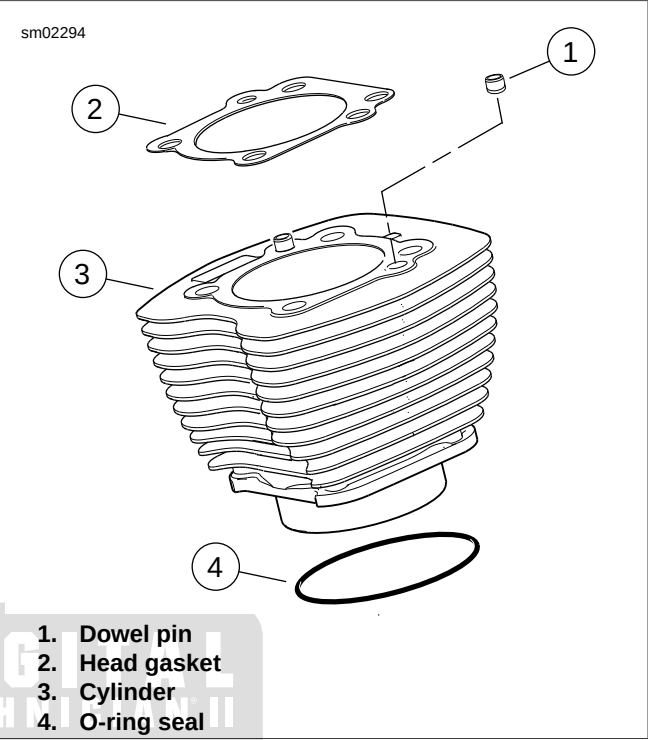

Figure 3-22. Cylinder Assembly
5. See Figure 3-22. Remove o-ring seal (4) from the bottom of the cylinder liner. Discard o-ring seal.